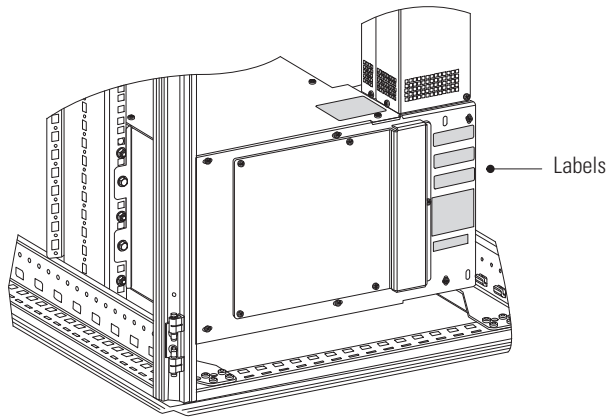

Figure 9. Wireway Labels
22. Verify that the six information labels are attached to the wireway as shown in Figure 9.